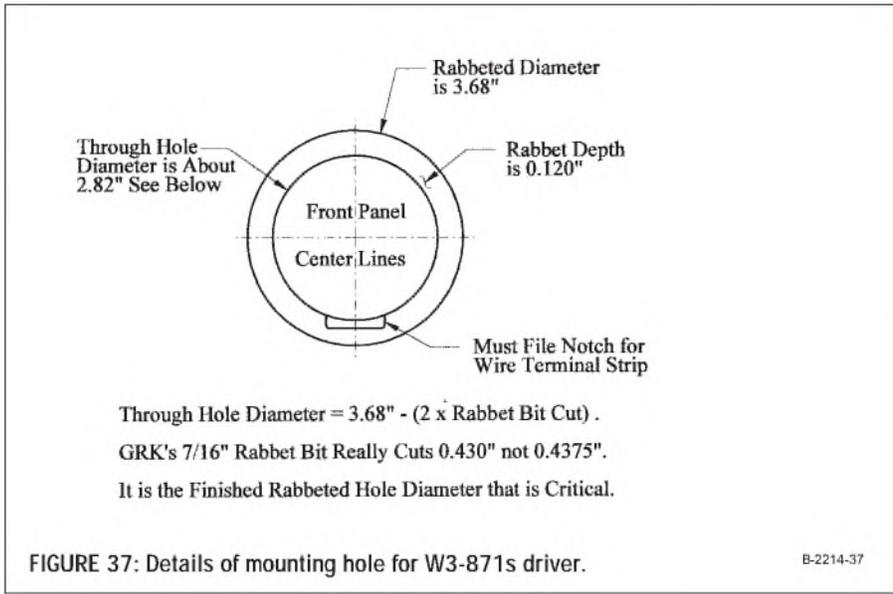

FIGURE 37: Details of mounting hole for W3-871s driver.
- Details of driver mounting hole: *Fig. 37*
These drivers must be flush-mounted (*Fig. 37* shows details of the rabbeting we used). Not all rabbeting bits cut the same amount, so you need to size your through hole such that your $\frac{1}{16}$ " rabbeting bit will produce the outside diameter shown. You want this rabbeted hole diameter to be accurate because testing indicates having a gap around the outside of the frame rim can cause as much diffraction as surface-mounting the driver. The driver mounting hole also requires a filed notch to clear the terminal strip mounted on the driver.
- Details of driver mounting hole: *Fig. 37* (same as boxes #7 and #8)
The basic locations of the two holes in the front panel are indicated in *Fig. 41*. Refer to *Fig. 37* and *Photos 12* and *13* for details of the holes needed to mount each driver. We faced the terminal strip toward the FP center for each driver.